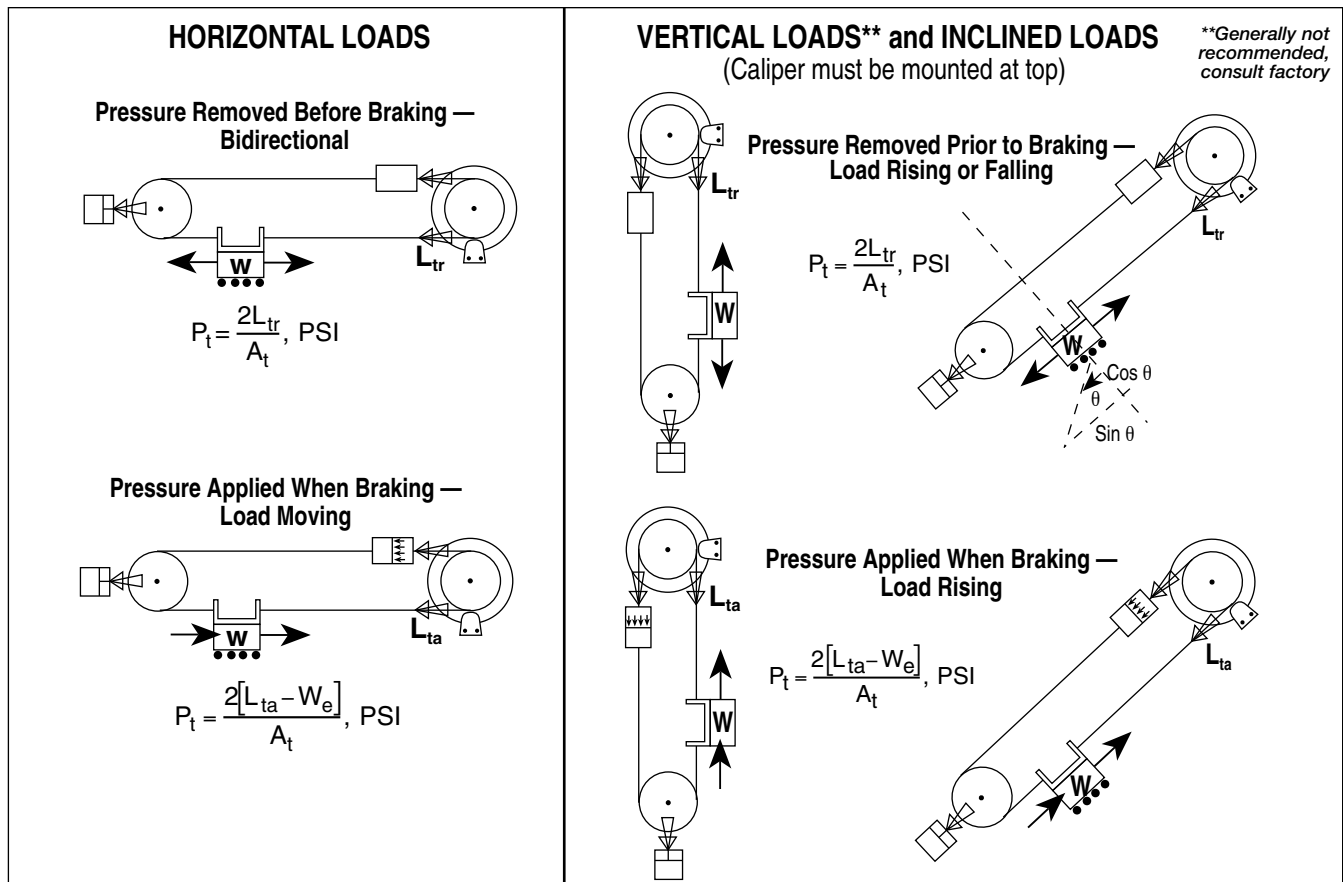

Figure 1
3. *Calculate the tangential braking force required.* This is ( $F_{tr}$ ) when pressure is removed prior to braking, or ( $F_{ta}$ ) when pressure is still applied when braking. Refer to illustrations in Figure 1.
5. Calculate tensioner pressure setting, ( $P_t$ ) based on type of load configuration. See Figure 1 and Table 1